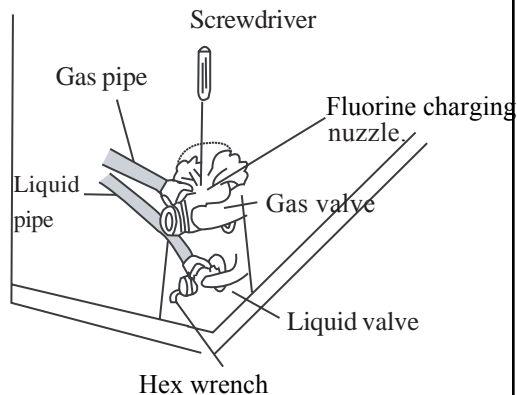

Fig.11-9
- Open the liquid valve and gas valve entirely (Shown in Fig.11-9).